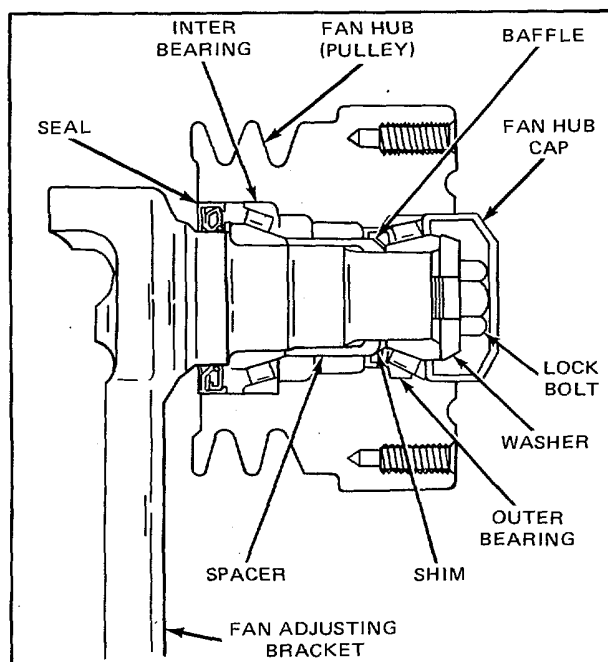

Figure 4. Roller Bearing-Type Fan Hub Assembly (In-Line Engine)
1. Refer to Fig. 4 and remove the fan hubcap.